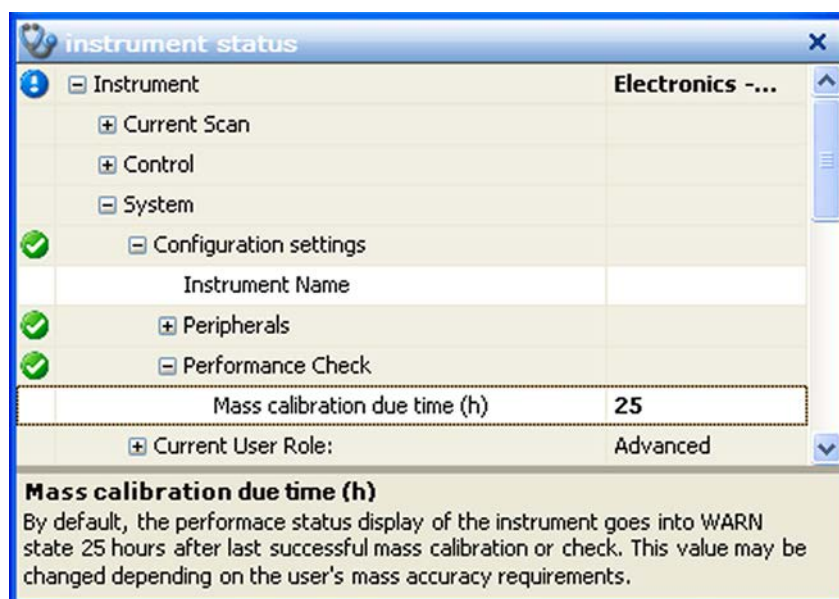

Figure 5-12. Instrument status window—Performance Check node
2. In the instrument status window, click **Instrument > System > Configuration settings > Performance Check**. The Mass calibration due time (h) field displays the current validity period of the mass calibration (25 hours, for example). See Figure 5-12.